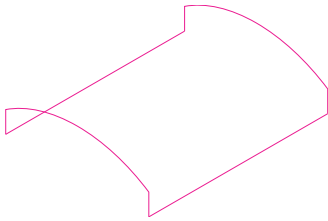

Fig. 17.29 Example – **Edgesurf** –
7. With the **Line** tool, draw lines between the ends of the two plines using the **endpoint** osnap (Fig. 17.29). Note that if polylines are drawn they will not be accurate at this stage.